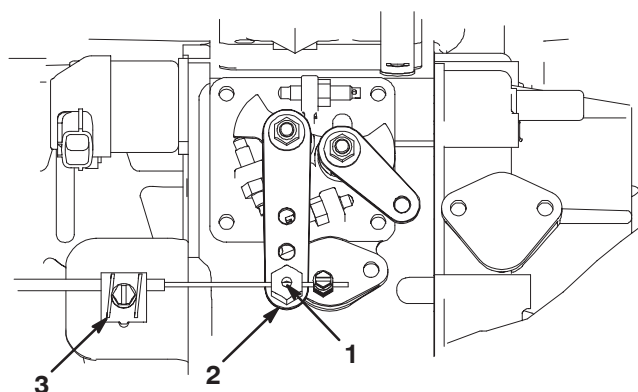

Figure 1
2. Remove the connector securing the throttle cable to the injection pump lever arm swivel(Fig. 1).
3. Remove the cable clamp securing the throttle cable to cable support bracket (Fig. 1).